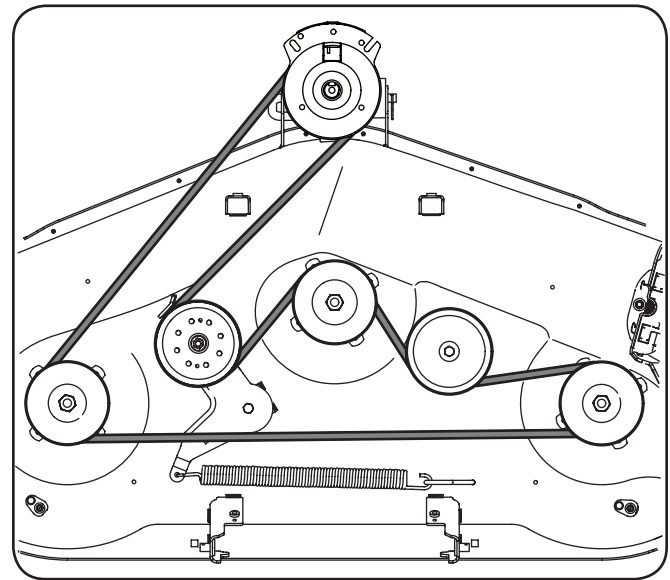

Figure 7-6
4. Route the new belt as shown in Figure 7-6.